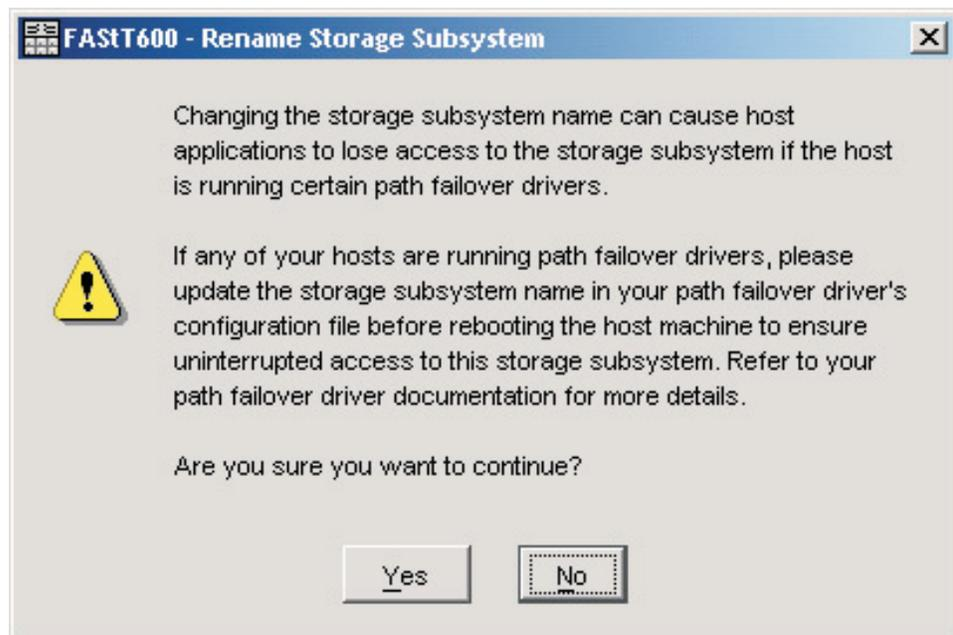

Figure 19. Rename Storage Subsystem window
1. In the Enterprise Management window, Right-click the storage subsystem and select **Rename**. The Rename Storage Subsystem window opens as shown in Figure 19.